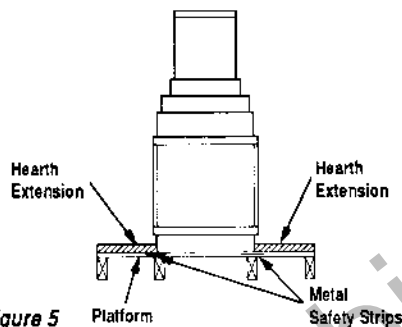

Figure 5
Step 2. Insert the metal safety strips, packaged with the fireplace, beneath the fireplace as illustrated (Figure 5). The safety strips should overlap 1" (25mm) for continual coverage of the floor.